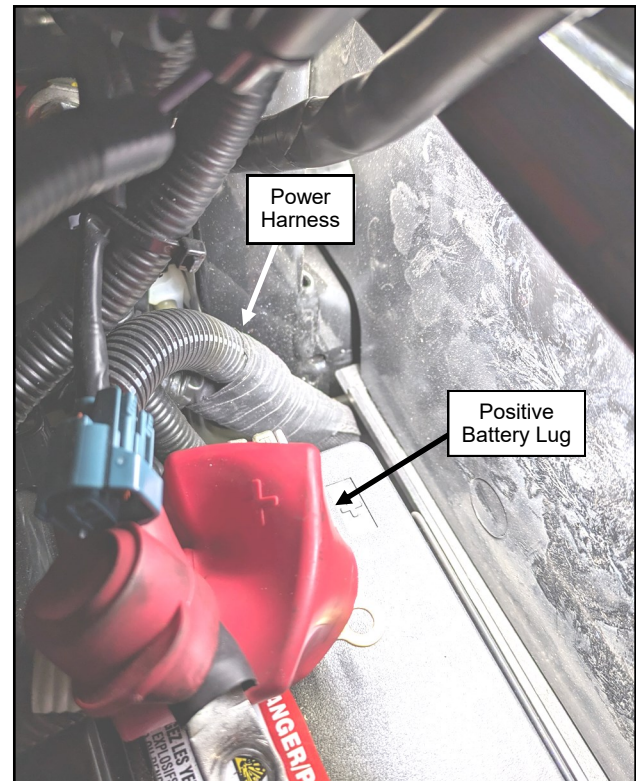

Fig. 18.6 Route Harness, Right Side
- 18.6** Route the harness up to the positive battery lug as shown in figure 18.6.